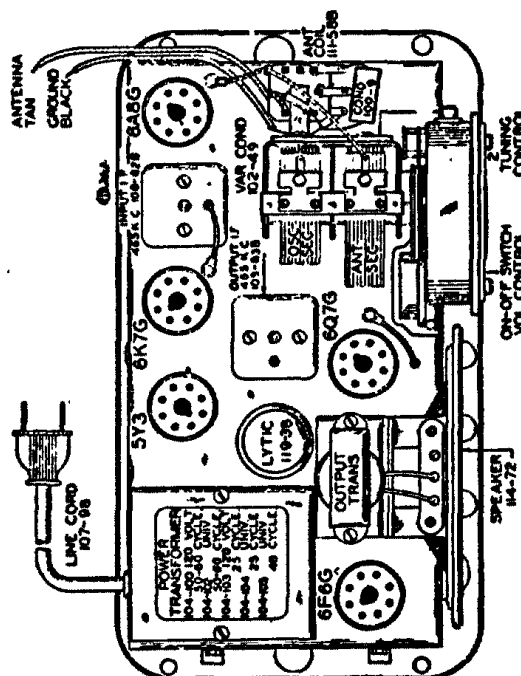

FIG. 1—TOP VIEW
These I.F. transformers have two adjustments, both of which are accessible from the top of chassis (see Fig. 1).
- (a) With external oscillator set at 1720 kilocycles, adjust oscillator trimmer to resonance. This adjustment is on the top of rear section of variable gang condenser. (See Fig. 1).